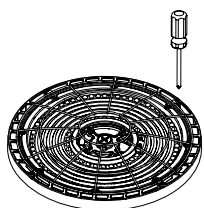

Figure 12
1. Position the Wire Guard: Place the wire guard over the fixture, ensuring proper alignment. (See Figure 12)